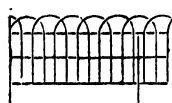

Fig. 619.
**Garden Borders.**—Figs. 619 to 621 show designs for some simple wire borders for the garden. They may be of any strength, length, and width, of ordinary common iron wire of any gauge. Suitable gauges are No. 14 B.W.G. for the bent parts, and No. 10 B.W.G. for the frames. When made, the borders may be painted, tinned, or galvanised. Fig. 622 shows the method of putting the frame together. It consists of five pieces of iron wire No. 10 B.W.G. The stays A and B are simply two straight pieces of wire 1 ft. 7 in. long, and the rails
Figs. 619 to 621.—Wire Borders for Garden.